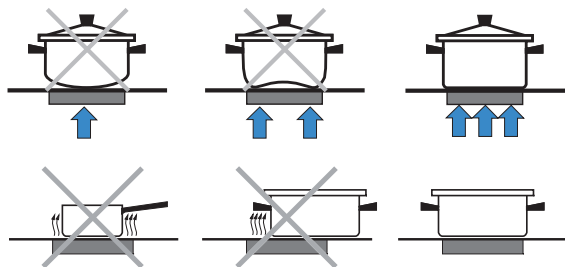

Fig. 7
- Remove any residues of food and drops of grease from the cooking surface by using the special scraper supplied on request (Fig.7).